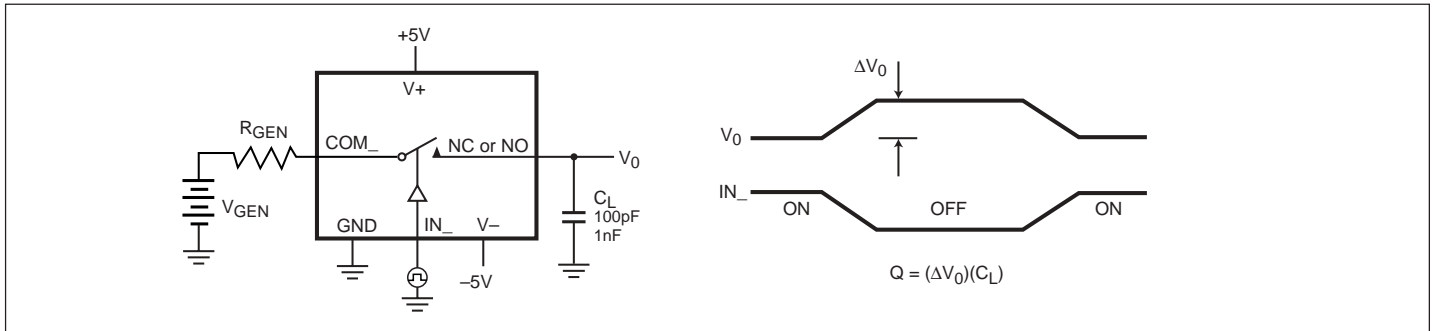

Figure 6. Charge Injection
6. See Figure 6. Off isolation = 20log₁₀ V_{COM}/V_{NC} or V_{NO}, V_{COM} = output, V_{NC} or V_{NO} = input to off switch